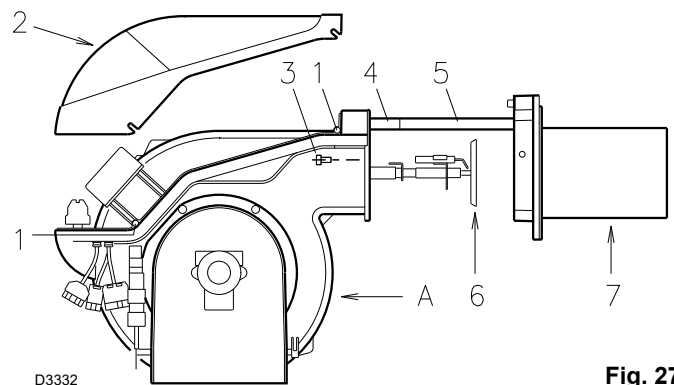

Fig. 27
- Loosen screws 1)(Fig. 27) and withdraw the cover 2)